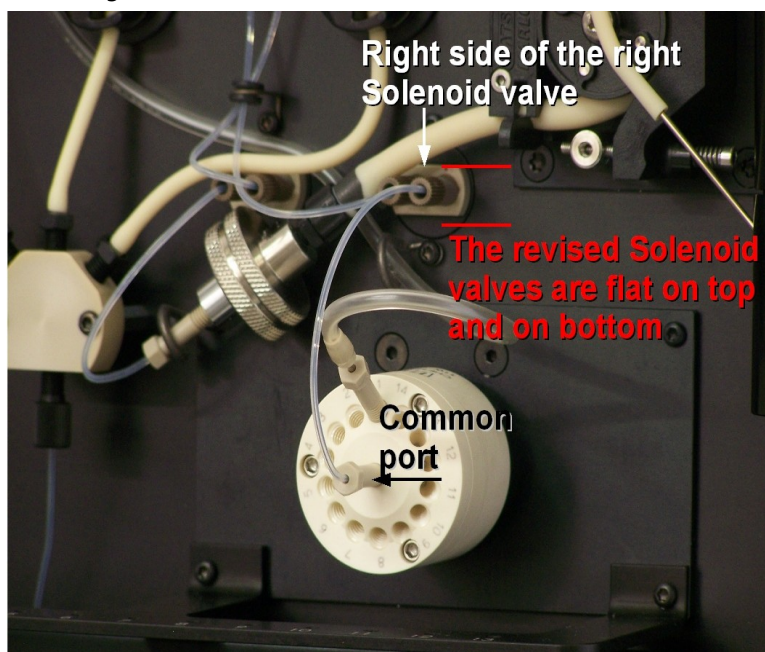

Figure 2: Revised Solenoid Valve with the Sample Common Port Connection.
Use the *1/4"-28 Headless Brown Nut* (346011) for the **revised Solenoid Valves** (**Figure 2**).
- Connect the *Sample Common Port Connection* into the **right** side of the right *Solenoid Valve* using a *1/16" White Ferrule* (347016) and either the black or the brown nut (**Figure 2**).